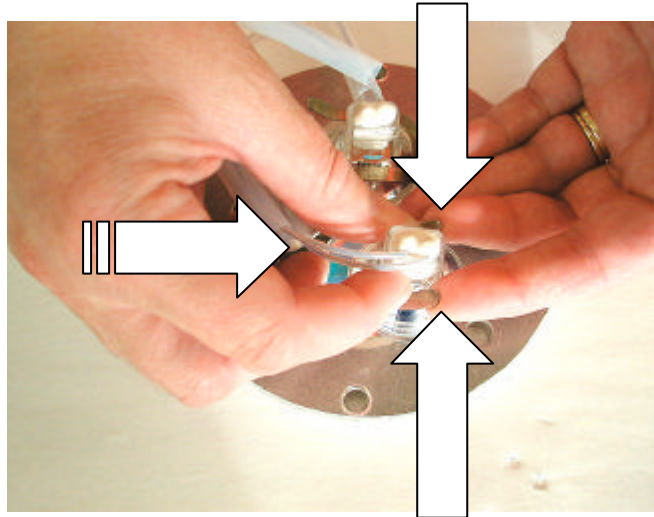

Fig. 6. Remove and replace a lamp.
- Push the lamp retaining spring fingers away from the lamp reflector using two fingers on one hand. With the other hand pull the lamp back until the reflector rim is clear of the prism clamp enabling the lamp to be lifted clear. See **Fig. 6**.